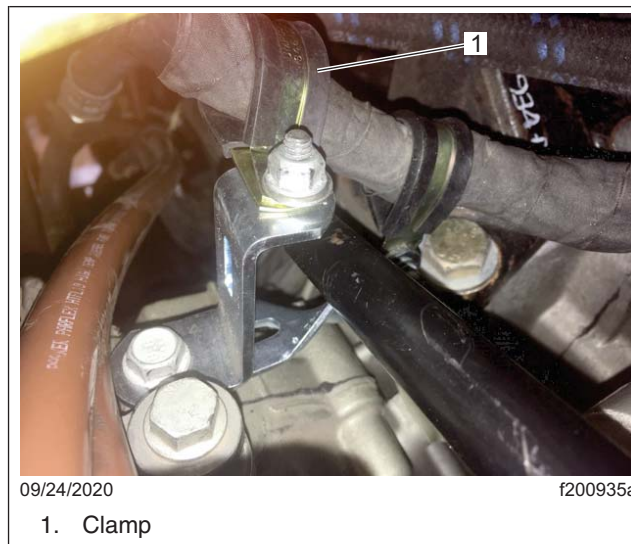

Fig. 27, Clamp Installation
- Install the clamps (23-11357-016) to secure the engine harness to both of the new standoff brackets at the rear of the engine, and mount the clamps using the nut (23-13861-104), screw (23-09432-075), and two washers (23-10900-025). See **Fig. 27**.